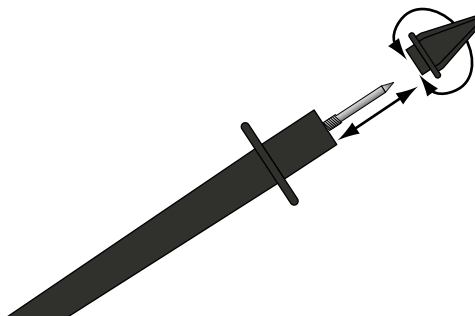

Figure 9-4 Probe collar
1. Remove the collar from the probe by threading it counterclockwise off of the tip (Figure 9-4). Store the collar in a safe place while not in use.